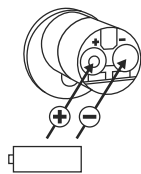

Fig. 3
- Insert two new batteries. Make sure that the polarity is correct according to the drawing (Fig. 3).